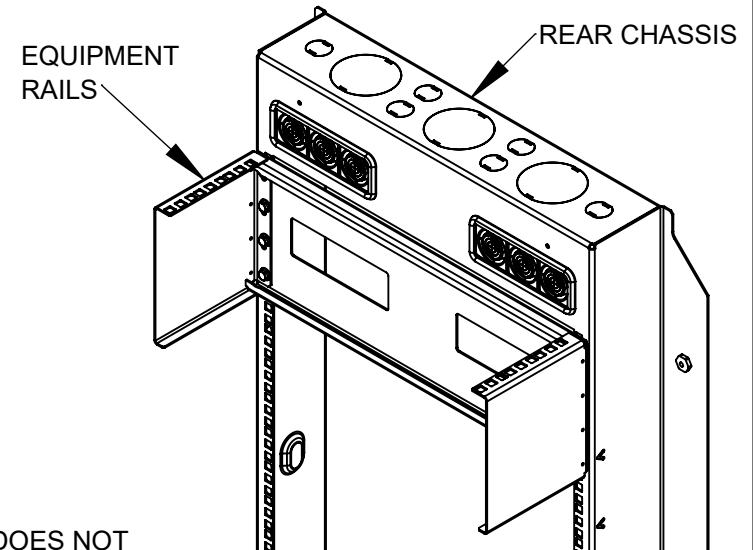

Fig. 6
The included Equipment Rails (Fig. 6) install onto the Rear Chassis using (8) M6 Hex Bolts/Nuts. The Equipment Rails must be installed biased towards the top of the cabinet in order to ensure proper hot and cold air partitioning.